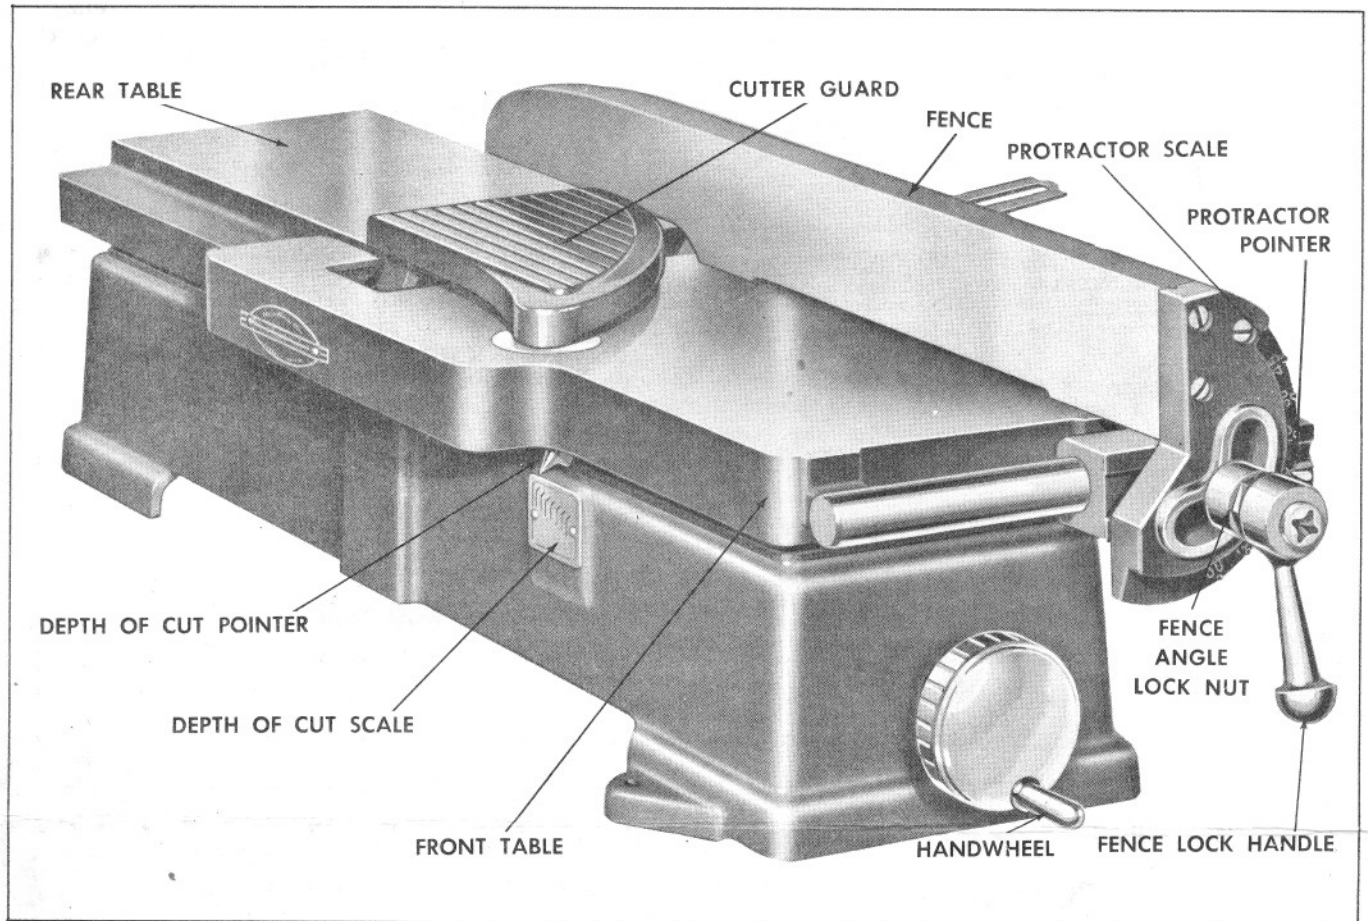

FIGURE 1
1. To install the cutter guard, (See Figure 1), engage the hexagon stud in the swinging guard insert, Item 2, in operating position and drop the guard in place.
The swinging guard shown in Figure 1 should be in operating position at all times except during rabbeting operations at which time it may be removed by lifting it straight up out of its hexagonal socket in the front table.